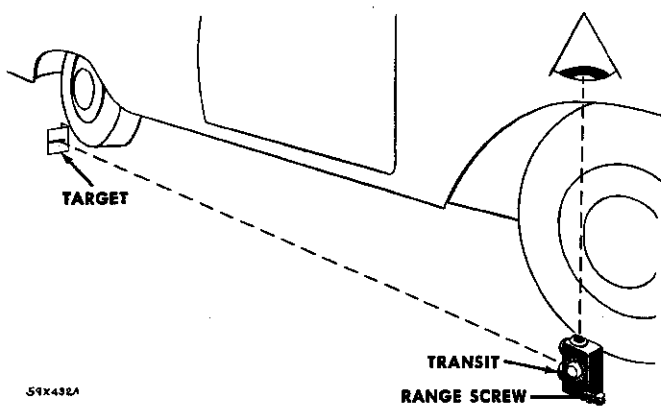

Fig. 1—Determining the Slope of the Floor
(1) Place the transit on the floor in line with a vertical center line of the right front wheel (Fig. 1), Place the split image target in like position at the right rear wheel.
(2) Adjust the range screw on the transit until the target split image coincides or merges into one unbroken line.